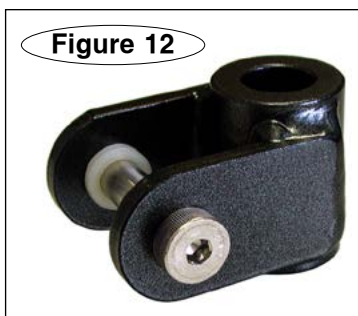

Figure 12
17. Determine which version of swivel ears are on the tow bar – the swivel ears were redesigned in 2014, to fit either side of the tow bar. A photo of the newer swivel ear is shown in Figure 12.
those in Figure 12, skip step 18 and the warning that follows it.